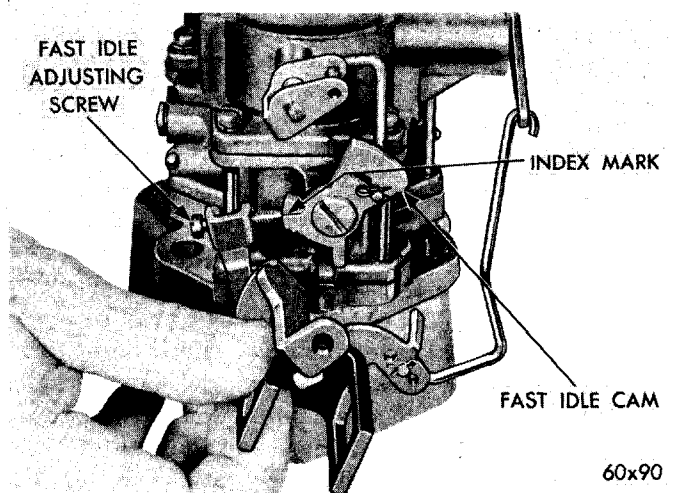

Fig. 16 — Fast Idle Index Mark Aligned
- (1) Open the throttle valve and hold the choke valve in the fully closed position. Now close the throttle valve. This will position the fast idle cam to fast idle position.
- (2) Release the choke valve only. This positions the fast idle cam to fast idle. The index mark on the cam should split the center of the fast idle adjusting screw, as shown in Figure 16.